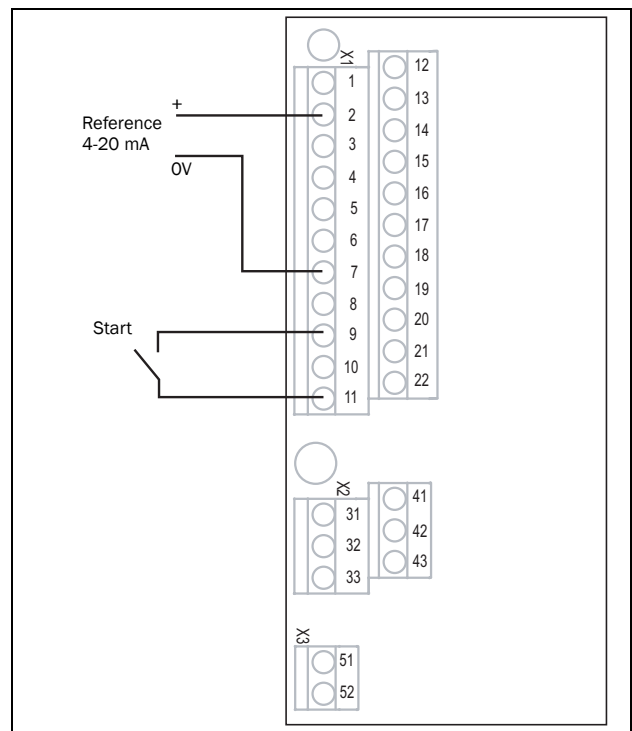

Fig. 56 Wiring
2. Connect a reference value between terminals 7 (Common) and 2 (AnIn 1) as in Fig. 56.
3. Connect an external start button between terminal 11 (+24 VDC) and 9 (DigIn2, RUNR) as in Fig. 56.
14. Connect digital and analogue inputs/outputs as in Fig. 56.